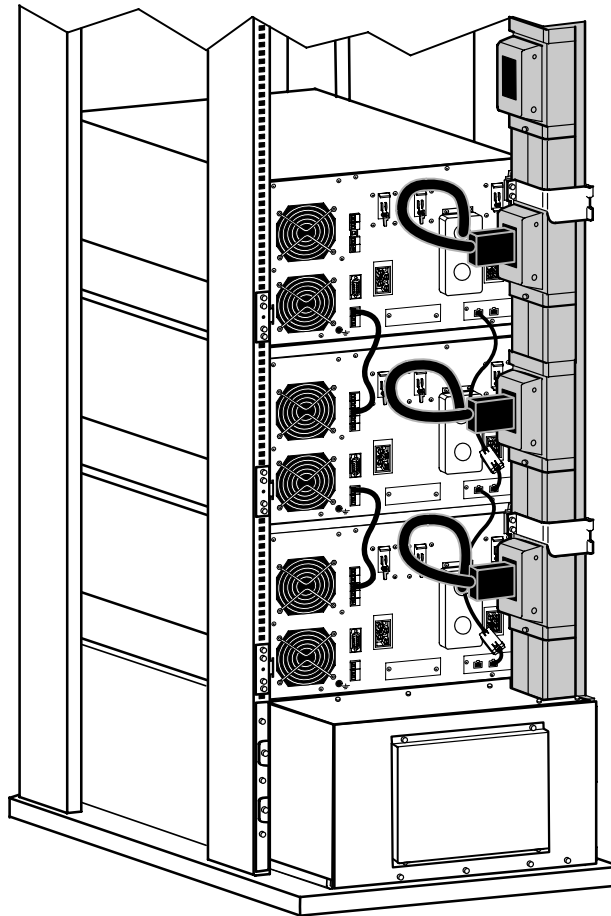

Figure 42. Connecting UPSs to the BladeUPS Bar (Bottom Entry Shown)
19. Connect the parallel input cord from each paralleled UPS to the BladeUPS Bar in the rack as shown in Figure 42.